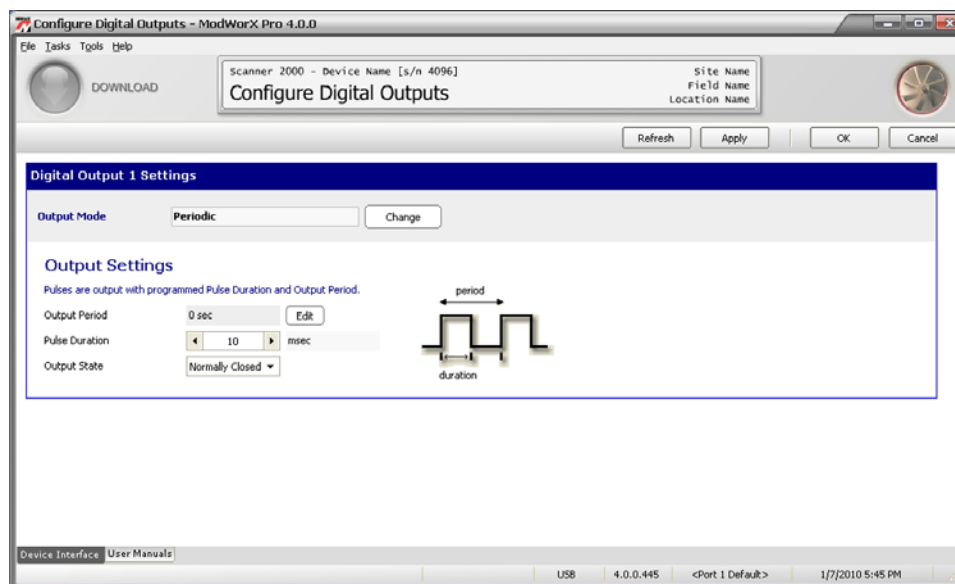

Figure 7.8
2. Click **OK** to save the setting and return to the Configure Digital Outputs screen (Figure 7.8, page 95).